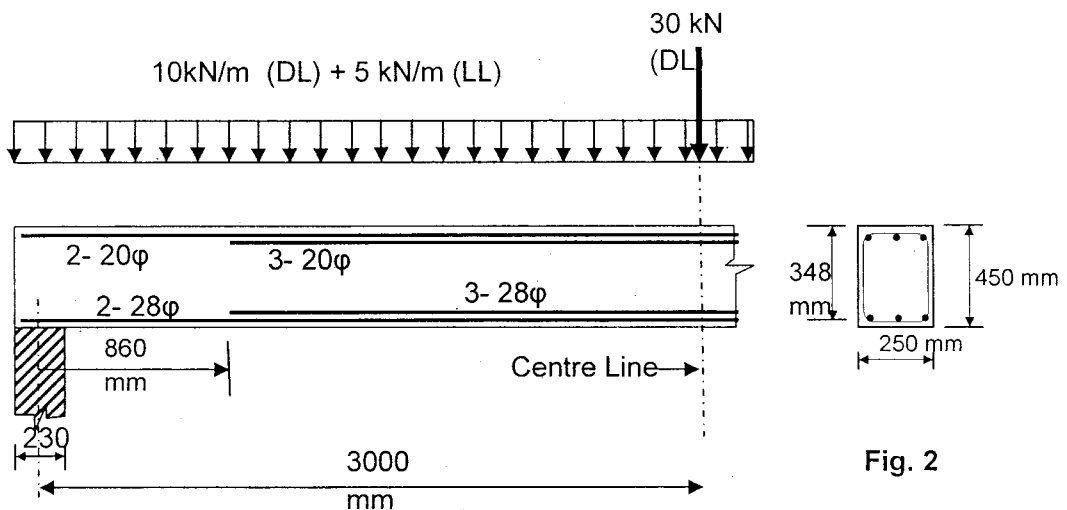

Fig. 2
2. Design shear-reinforcement for the doubly reinforced beam shown in Fig. 2. The beam is simply supported with a total centre-to-centre span of 6.0 m. Use 8mm $\phi$  vertical stirrups made of Fe 250 steel. The shear at the bar-cutoff point (860 mm from centre of support) also needs to be checked. The concrete is of M25 and flexural steel of Fe 415. (40)